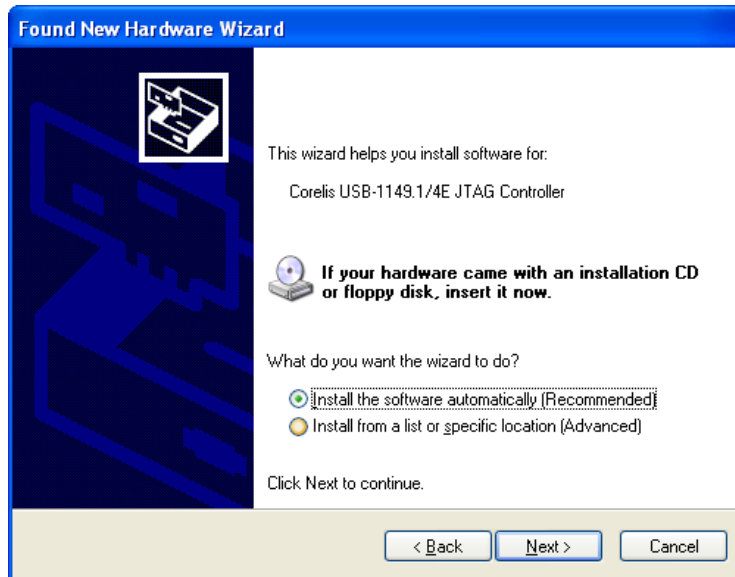

Figure 2-2. Found New Hardware Wizard (WinXP)
5. The following dialog box as shown in Figure 2-2 will pop up. Select “**Install the software automatically (Recommended)**” and click on the **Next** button.